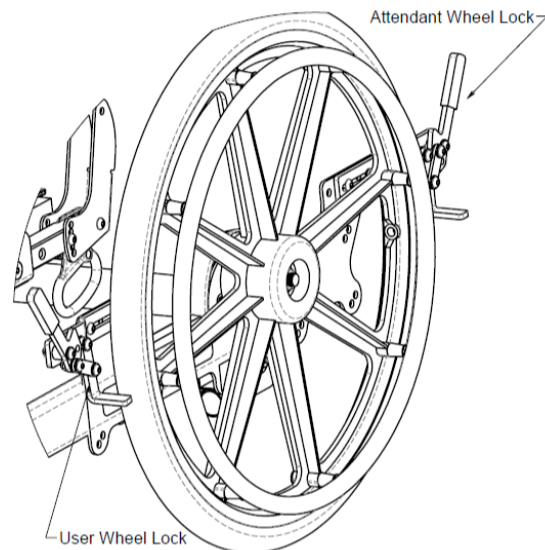

Figure 14.38: User Wheel Locks and Attendant Wheel Locks
4. To engage the attendant wheel lock in the User and Attendant Wheel Lock option (see Figure 14.38), follow the step 3 instructions. To engage the user wheel lock in the User and Attendant Wheel Lock option (see Figure 14.38), follow the instructions corresponding to the user wheel lock type (ie. Push to Lock or Pull to Lock).